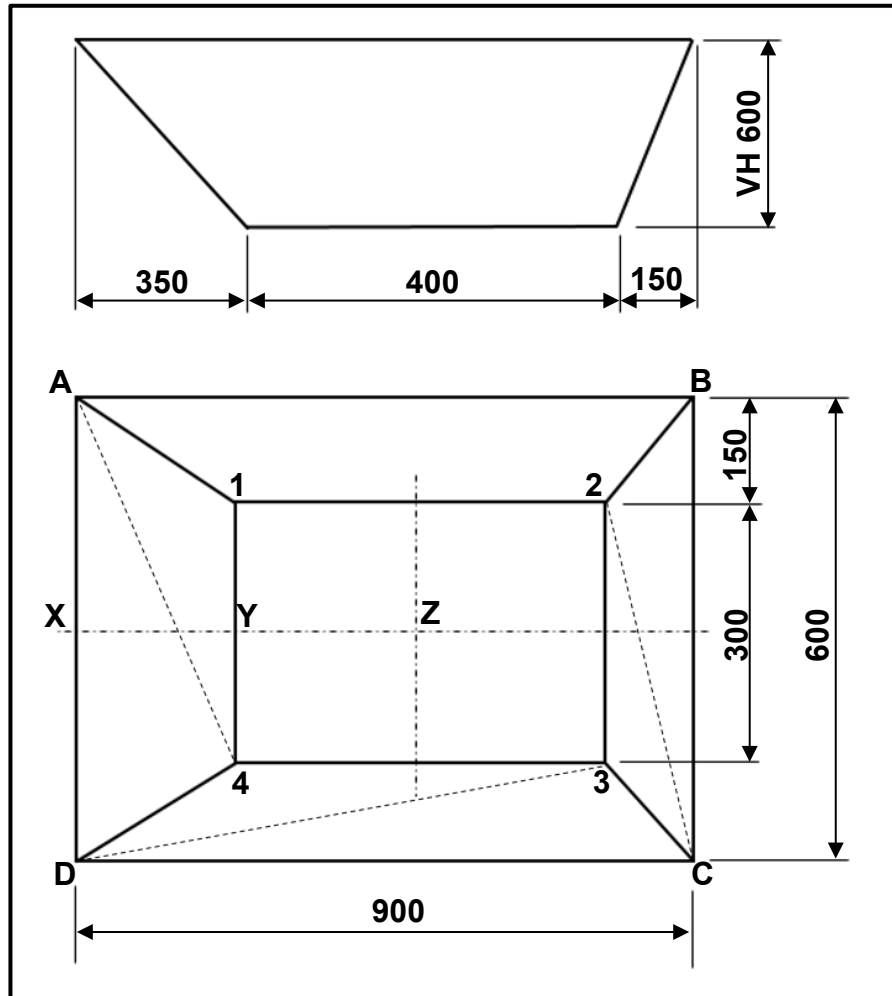

FIGURE 11.1
FIGURE 11.1 below shows a hopper with a vertical height (VH) of 600 mm. Answer the questions that follow.
- 11.2 Calculate the following true lengths in FIGURE 11.1: